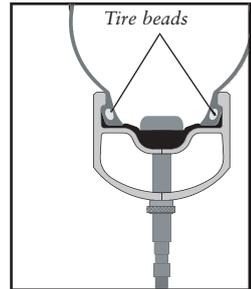

Figure 5- Beads seated onto rim
7. Inflate the tire until the tire beads seat onto the rim (Figure 5).